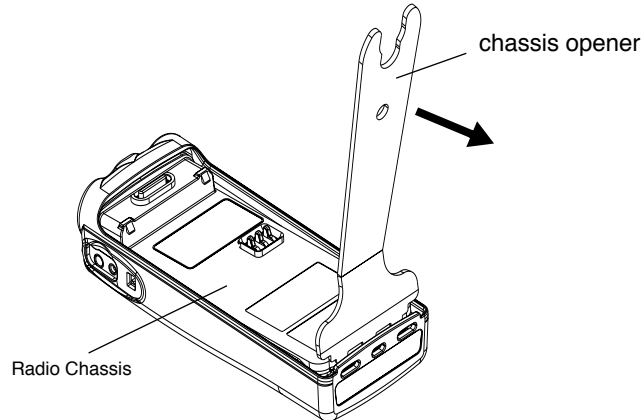

Figure 3-3 Chassis Removal
5. Separate the chassis from the internal electronics front cover assembly by using the chassis opener (part number 6680702Z01). Place the broad side of the opener into the slots located at the base of the radio (see Figure 3-3). Press the handle of the opener downwards. This pressing action forces the thin inner plastic wall toward the base of the radio, releasing the two chassis base tabs.